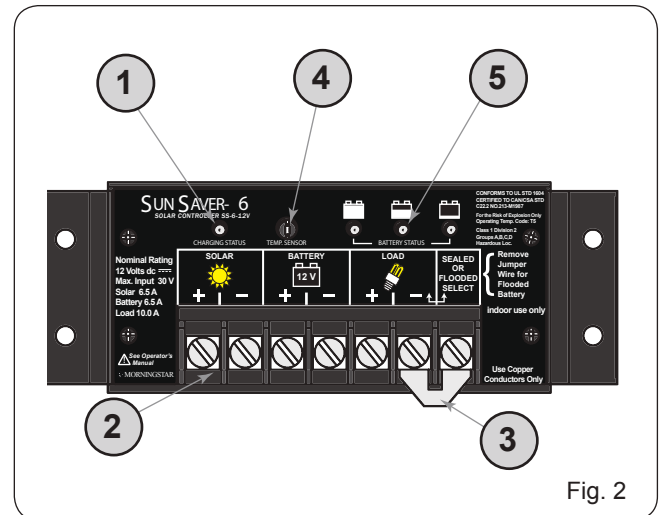

Fig. 2
The Status LED (Fig. 2 ref. (1)) indicates charging status and any existing solar input error conditions. The Status LED is on when charging during the day and off at night. The Status LED will flash red whenever an error condition(s) exists.
The Battery Status LEDs (Fig. 2 ref. (5)) indicate the level of charge on the battery. The indication is based only on battery voltage setpoints, which provides an approximation of the actual state of charge of the battery.
Status LED (Fig 2 Ref (1)) Error Indications
Battery Status LEDs (Fig 2 Ref (5)) Error Indications